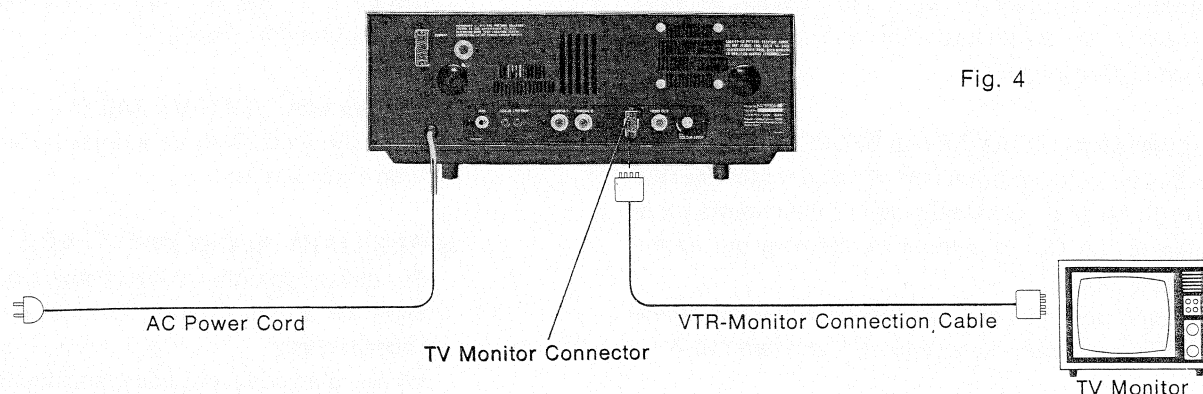

Fig. 4
1. Connect, as shown in Fig. 4, the recorder to a TV monitor using the VTR-monitor connection cable.
2. Turn on the Power Switch ⑳.